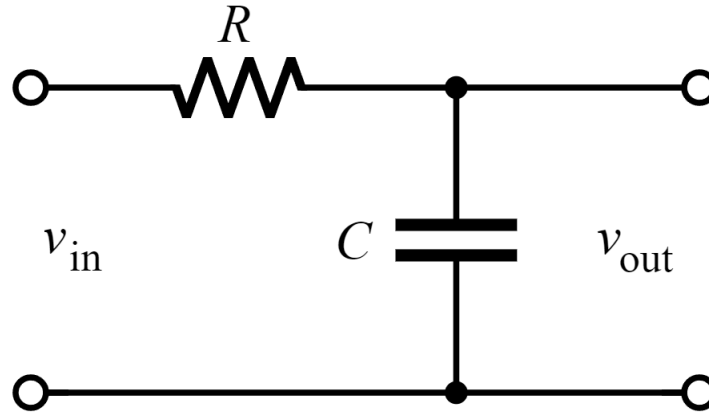

Figure. 1. Low Pass Filter (LPF)
Students were required to Construct the circuit of Figure.1. Given the values of resistor (R) and Capacitor (C), students were asked to vary the input frequency from 200 Hz to 100 KHz as shown in Table.1 and measure the  $v_{out}$  while maintaining the  $v_{in}$  at 2 VPP for each value of frequency. Consequently, students will Compute the voltage gain  $A_V$  for each frequency and Compute the dB loss for each frequency indicated in Table.1.